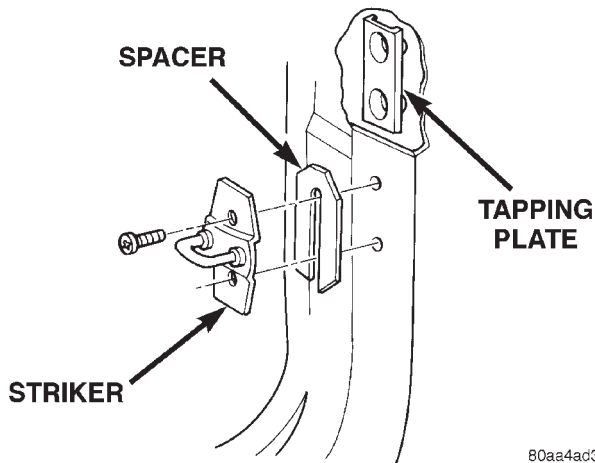

Fig. 53 Rear Door Latch Striker
- (1) Using a grease pencil or equivalent, mark position of striker.
- (2) Remove screws attaching striker to C-pillar (Fig. 53).
- (3) Separate striker from C-pillar.